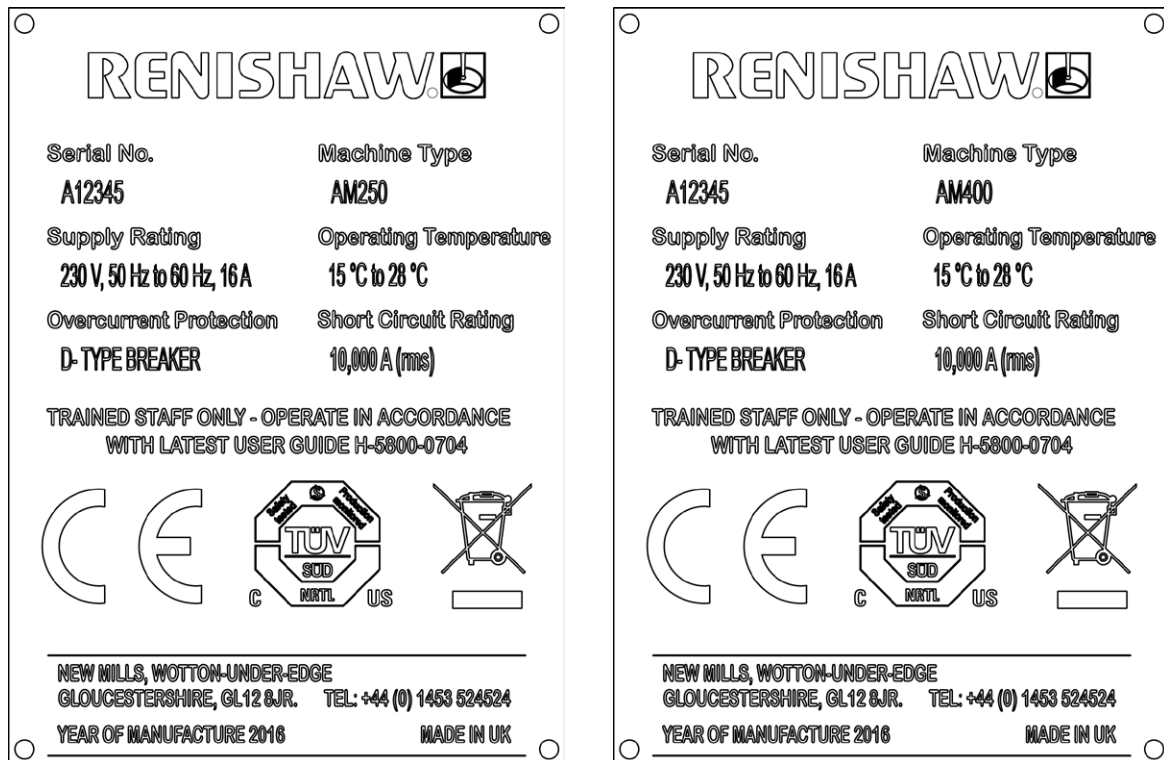

Figure 1 Build information – AM250 (l) and AM400 (r)
- The system serial number plate can be found on the rear of the system (Figure 1)